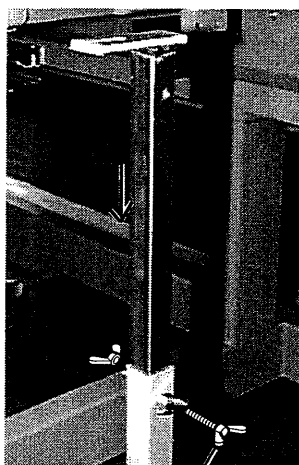

Fig. 4
- 7 Remove middle set screw on table stay, shrink table stay as illustrated in Fig. 4 and insert middle set screw.